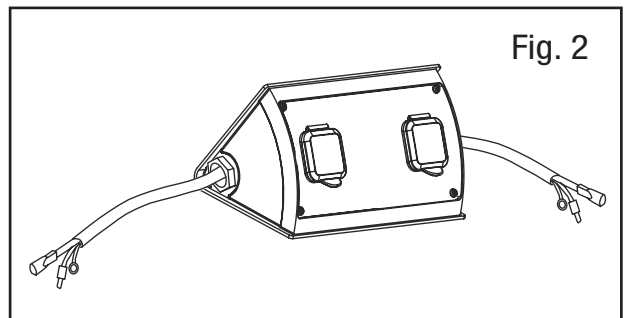
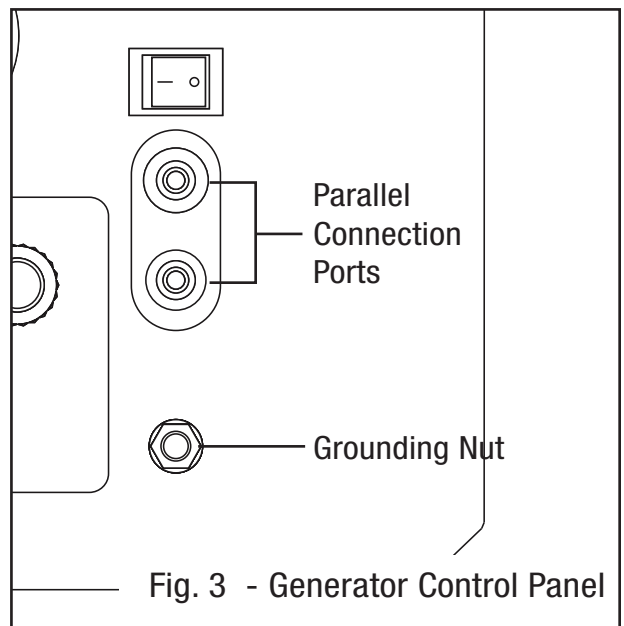

Fig. 2
Fig. 3 - Generator Control Panel
2. The parallel kit has two sets of wires (Fig. 2). Securely connect each set of wires to each generator's control panel (Fig. 3).